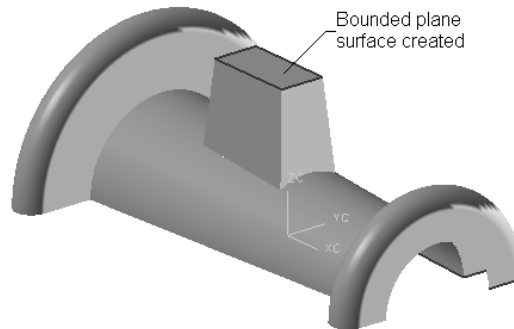

Figure 11-81 The resulting bounded plane surface
2. Select the sketch that is used to create the second surface and choose the **OK** button. The resulting bounded plane surface is shown in Figure 11-81.